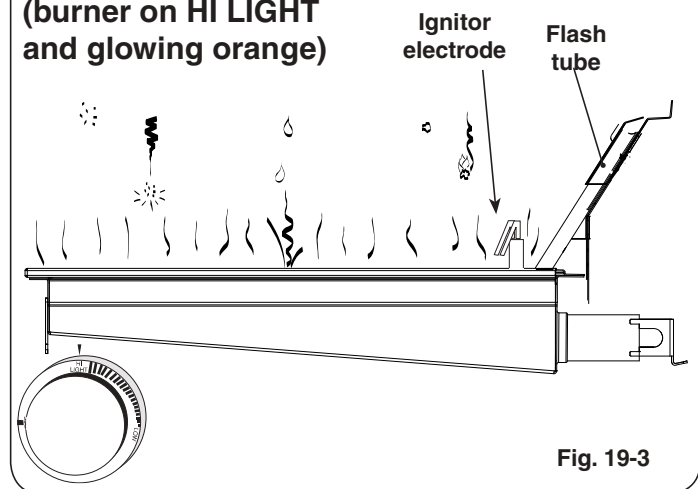

Fig. 19-3
- **DO NOT** place food on the cooking grid until the IR burner glows orange (Fig. 19-3). Drippings are heated and evaporate instead of sticking to and impairing burner function.